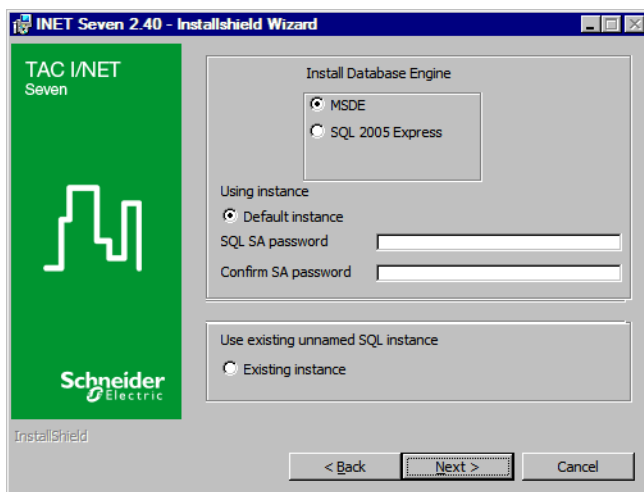

Figure 2-6. Database Engine Dialog Box
11. Setup displays the Database Engine dialog box (see Figure 2-6).